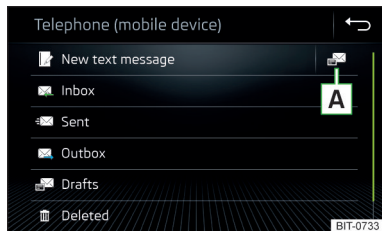

Fig. 171
► In the main *Telephone* menu, tap the function surface  and the main menu for text messages will be displayed » Fig. 171.
- In the main menu of the text messages, tap on function surface  » Fig. 171 on page 138.